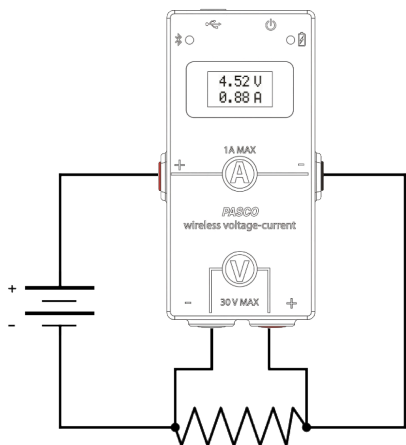

Figure 1: Wiring diagram for the sensor during data collection.
1. Connect the sensor's current ports in series with a circuit, as shown in Figure 1. The red port should be connected to a point closer to the high potential source, and the black port should be connected to a point closer to ground.
2. Connect the sensor's voltage ports in parallel with a circuit element, as shown in Figure 1. The red port should be connected to a point closer to the high potential source, and the black port should be connected to a point closer to ground.